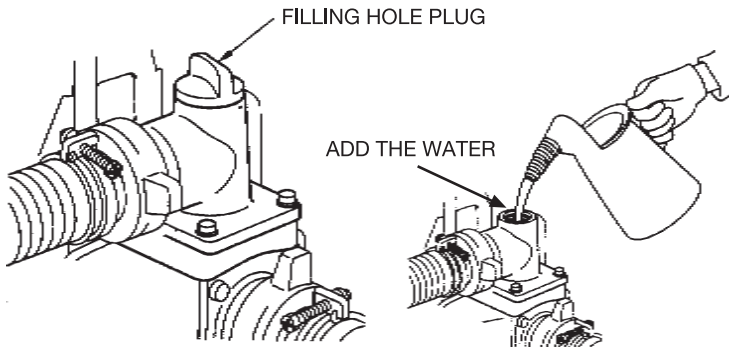

Fig. 4
**6. Check the pump** (as shown on the Fig.4)